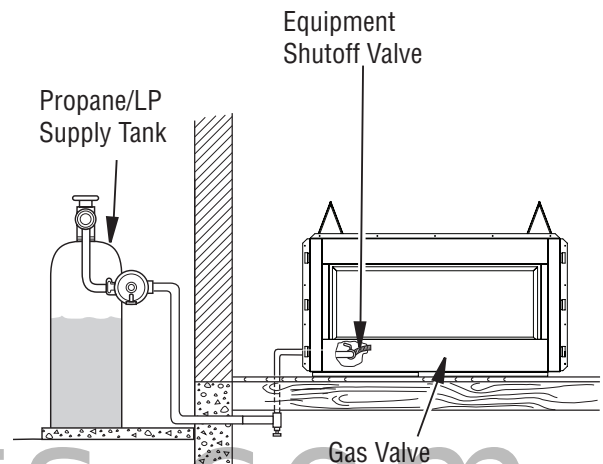

Figure 14 - Checking Gas Joints for Propane/LP Gas Fireplace
3. Check all joints from gas meter to equipment shutoff valve for natural gas or propane/LP supply to equipment shutoff valve for propane/LP (see **Figures 14 or 15**). Apply noncorrosive leak detection fluid to all joints. Bubbles forming show a leak.
4. Check all joints from equipment shutoff valve to gas control valve (see **Figures 14 or 15**). Apply noncorrosive leak detection fluid to all joints. Bubbles forming show a leak.